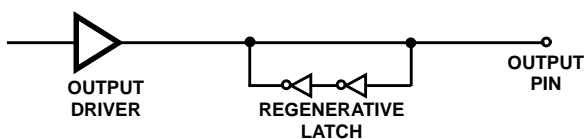

FIGURE 10. OUTPUT DRIVER AND LATCH FOR PINS AD0-AD7, A8-A15 AND IO/M.
1. An important caveat that is applicable to CMOS devices in general is that unused inputs should never be left floating. This rule also applies to inputs connected to a tri-state bus. The need for external pull-up resistors during tri-state bus conditions is eliminated by the presence of regenerative latches on the following HS-80C85RH output pins: AD0-AD7, A8-A15, and IO/M. Figure 10 depicts an output and corresponding regenerative latch. When the output driver assumes the high impedance state, the latch holds the bus in whatever logic state (high or low) it was before the tri-state condition. A transient drive current of approximately $\pm 1.0\text{mA}$ at 0.5 VDD for 10ns is required to switch the latch. Thus, CMOS device inputs connected to the bus are not allowed to float during tri-state conditions.